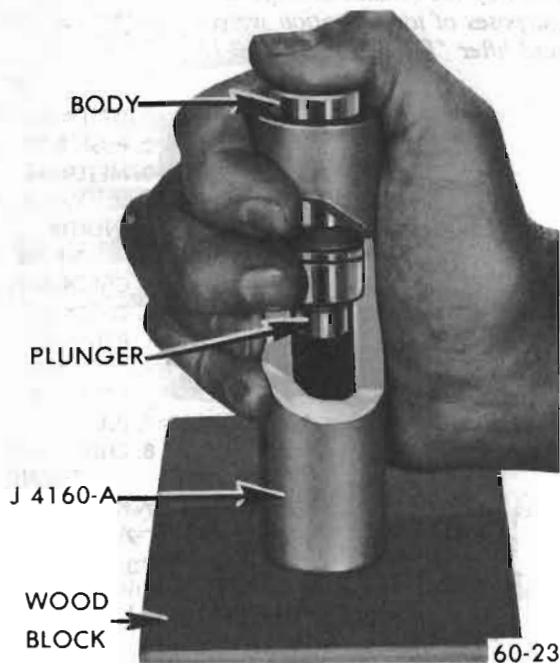

Figure 60-15 - Removing Plunger With J-4160-A
10. If a plunger sticks in lifter body, place lifter in large end of Plunger Remover J-4160-A, with plunger inward. While holding lifter with thumb, rap the open end of remover against a block of wood with just enough force to jar the plunger from body. See Figure 60-15.